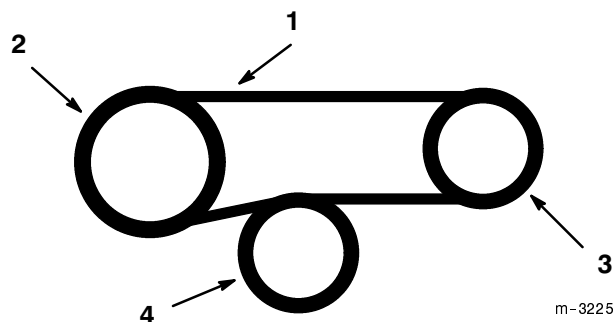

Figure 86
4. Install new PTO belt over clutch and route around gearbox pulleys and above spring loaded idler (Fig. 86).